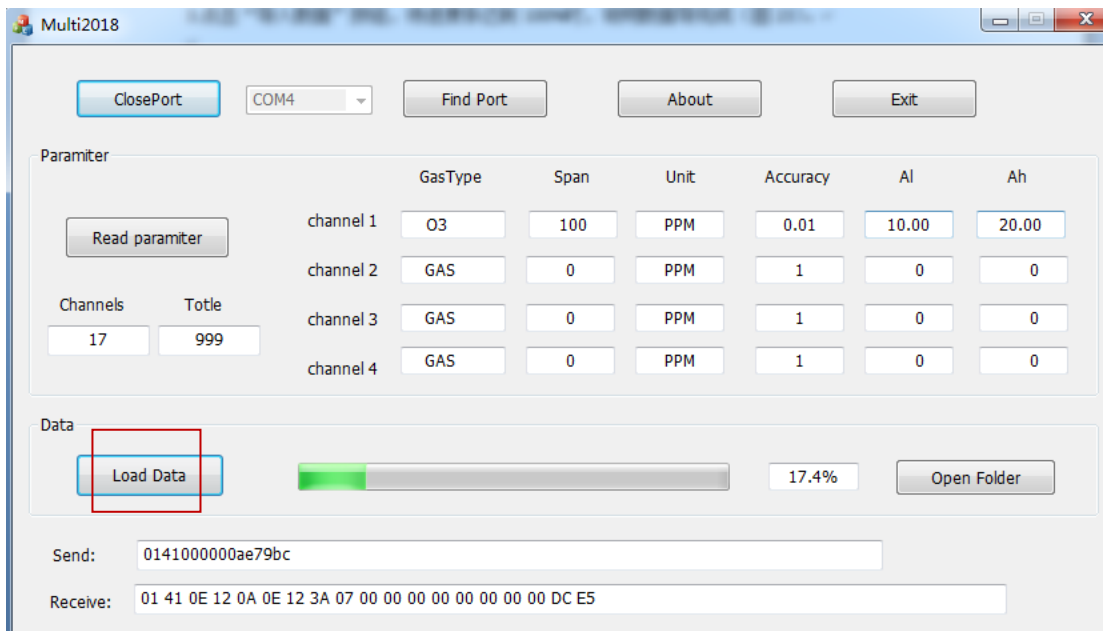
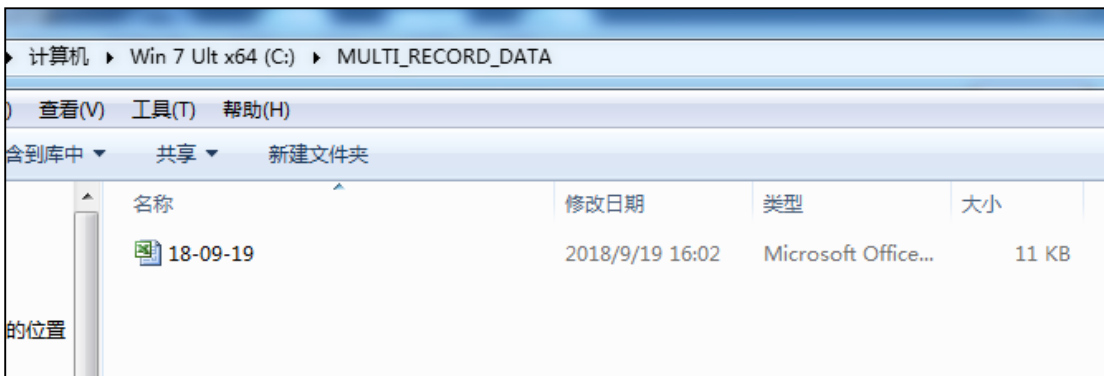

Figure 23
Figure 24
3) Click the "Load Data" button, when the progress bar reaches 100%, the data guide is completed (Figure 23).
4) After the data import is completed, click the “Open Folder” button (Figure 23), the “MULTI_RECORD_DATA” folder will be automatically played (Figure 24). And the EXCEL file will appear and which is the imported storage data file. Click to view the data (Figure 25);